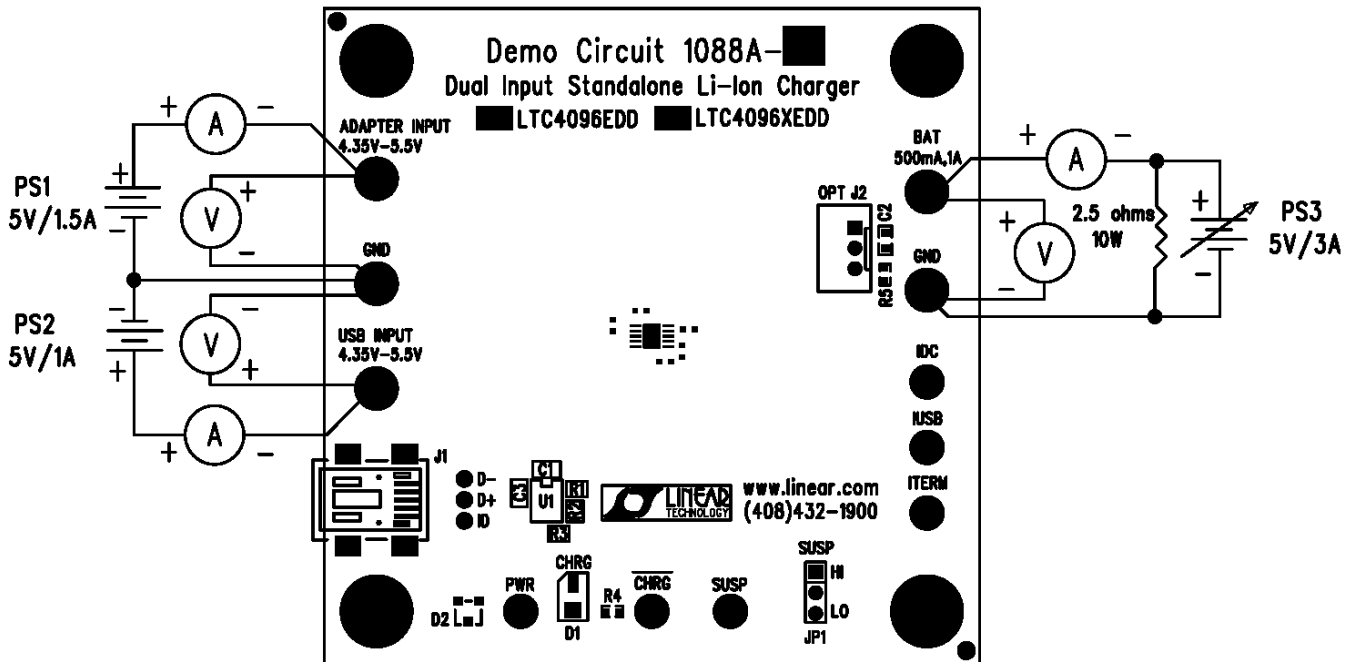

Figure 1. Proper Measurement Equipment Setup
Refer to Figure 1 for proper measurement equipment setup and follow the procedure below.
2. With the power supplies adjusted to 0V, connect the USB Input, Adapter Input, and Battery Simulator with series ammeters as illustrated in Figure 1. An ammeter or a 100m Ω current sense resistor may be used to measure the battery charge current.
3. Connect voltmeters as shown in Figure 1 across USB Input and Ground, across the Adapter Input, and Ground, and across the Battery Output and Ground. These voltmeters may also be used to measure the voltage on the IDC, IUSB, ITERM, and PWR terminals.